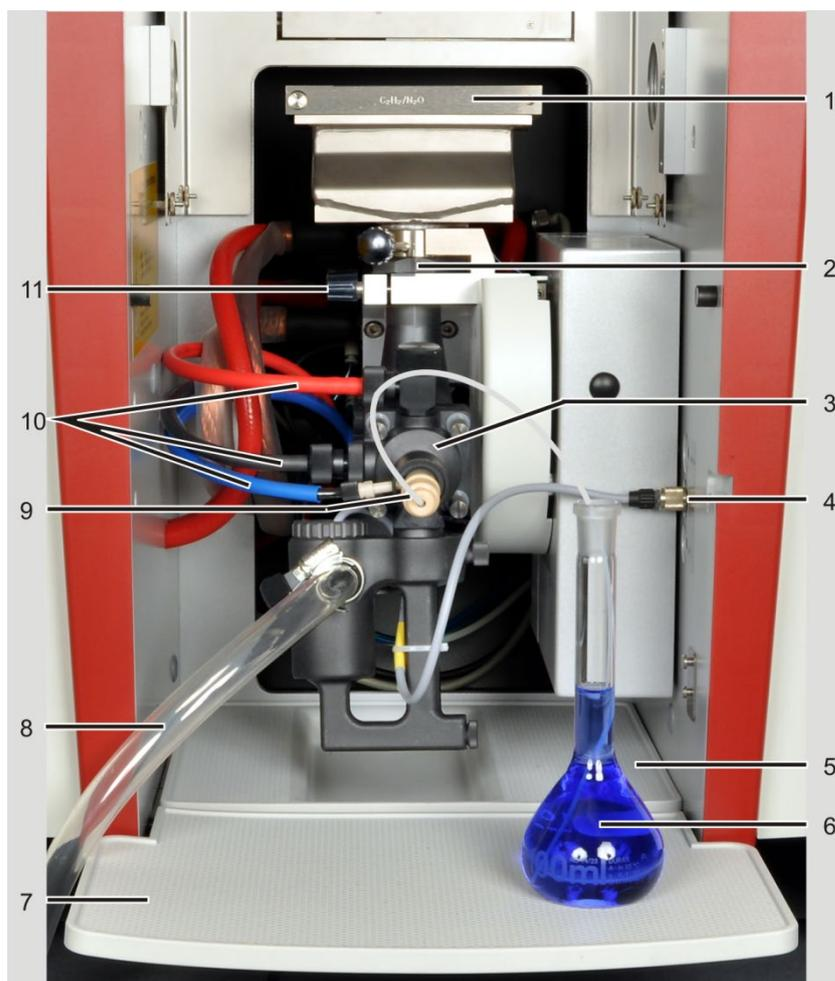

Fig. 42 Flame technique, manual sample supply
The marking on the mixing chamber tube must be positioned above the edge of the holding fixture (2 in Fig. 42).
8. Connecting the gas supply (10 in Fig. 42):